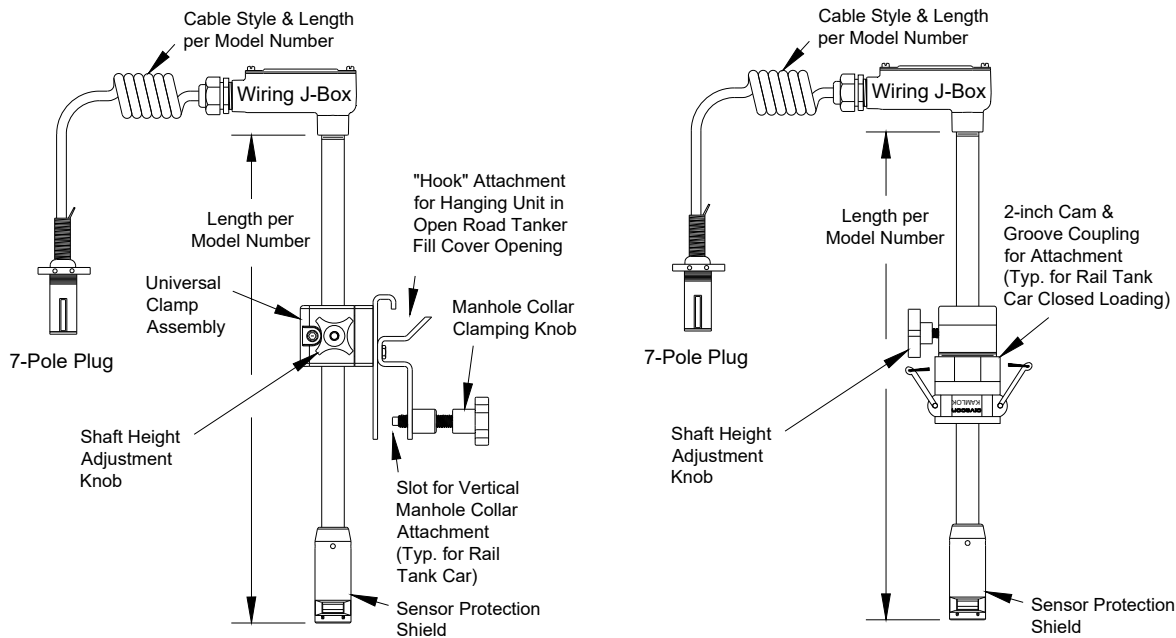

FIGURE 1 – Models 1300HS (left) and 1300KMLS (right) – Aluminum Wetted Materials
1.1 1300HS Series Models (with Aluminum Wetted Materials) – Per Figure 1